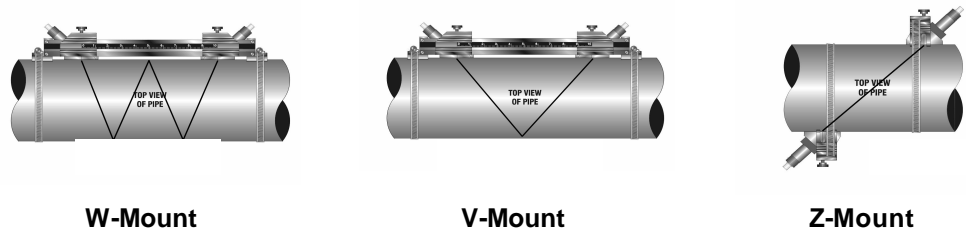

Figure 1.1
- B. Select a mounting method, **Figure 1.1**, for the transducers from **Table 2.2**, based on pipe size and liquid characteristics. In General, select **W-Mount** for plastic and steel pipes flowing clean, non-aerated liquids in the 1-6 inch [25-150 mm] internal diameter range. Select **V-Mount** for pipes of all materials and most liquids in pipe sizes from 3-10 inches [75-400 mm]. Select **Z-Mount** for pipes larger than 10 inches [400 mm].